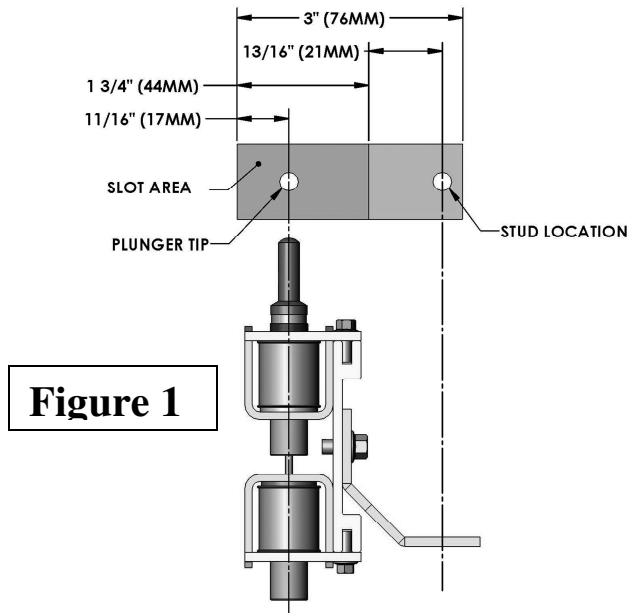

Figure 1
- A. To determine if the solenoid rail will have the necessary room on the keybed, make a measuring device to check the piano. Any small piece of wood or Plexiglas will work. (See Fig. 1) The overall width of the solenoid rail is 3“(76mm), including the brackets.